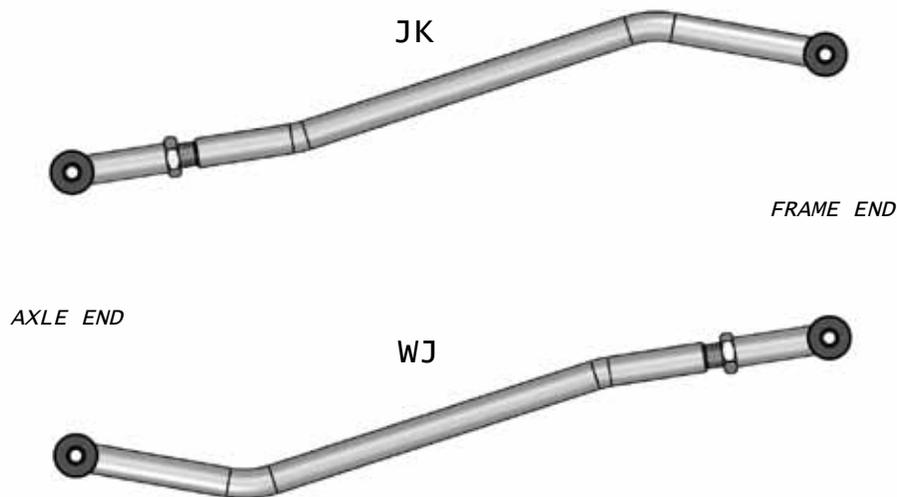

Figure 3
5. JK MODELS: Install the non-adjustable end of the new track bar in the factory track bar **frame** mount with the factory hardware. Orient the track bar so that the bend is **up**. Leave hardware loose. **Figure 3**
6. WJ MODELS: Install the non-adjustable end of the new track bar in the factory track bar **axle** mount with the factory hardware. Orient the track bar so that the bend is **down**. Leave hardware loose. **Figure 3**